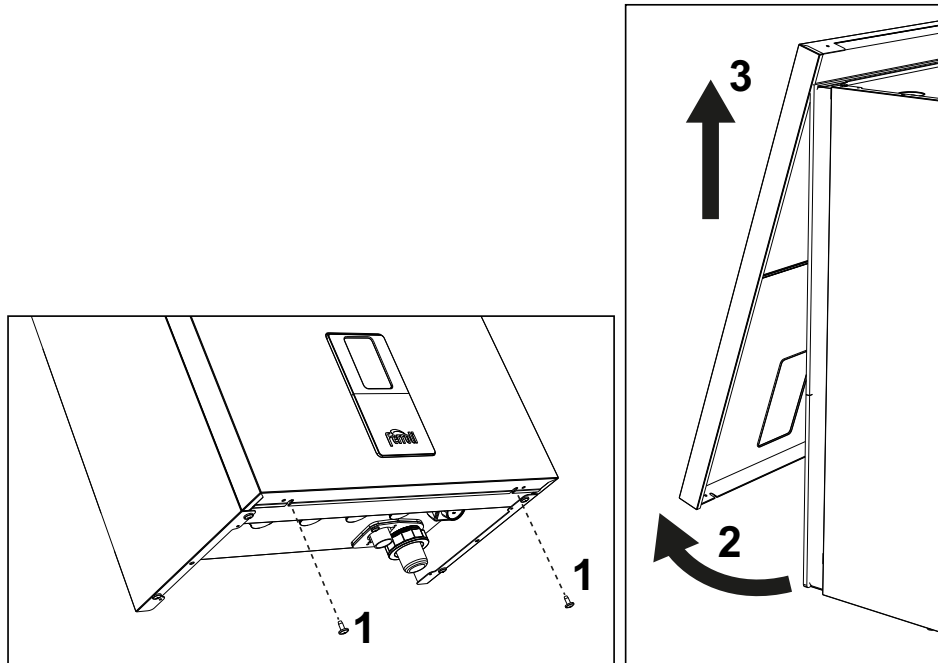

fig. 44- Front panel opening
1. Undo the screws "1" (see fig. 44).